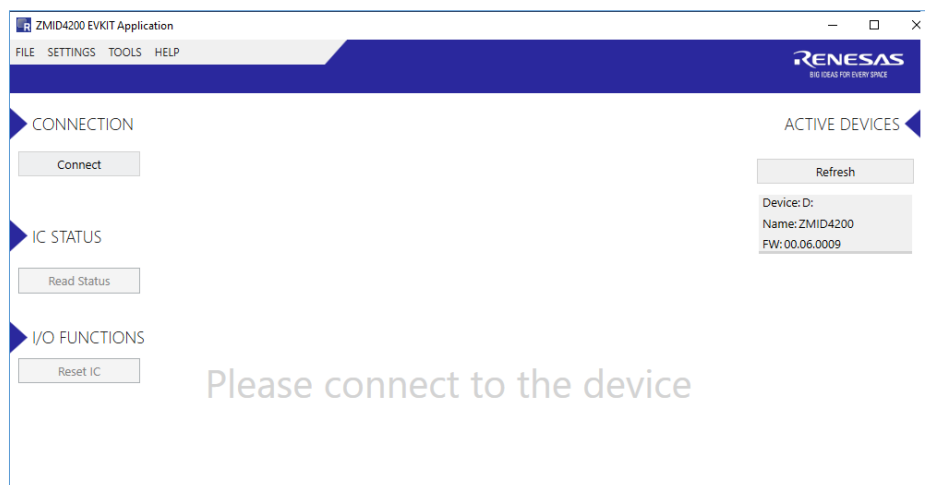

Figure 8. Start-up Screen
3. Start the GUI application. See Figure 8 for the start-up screen.